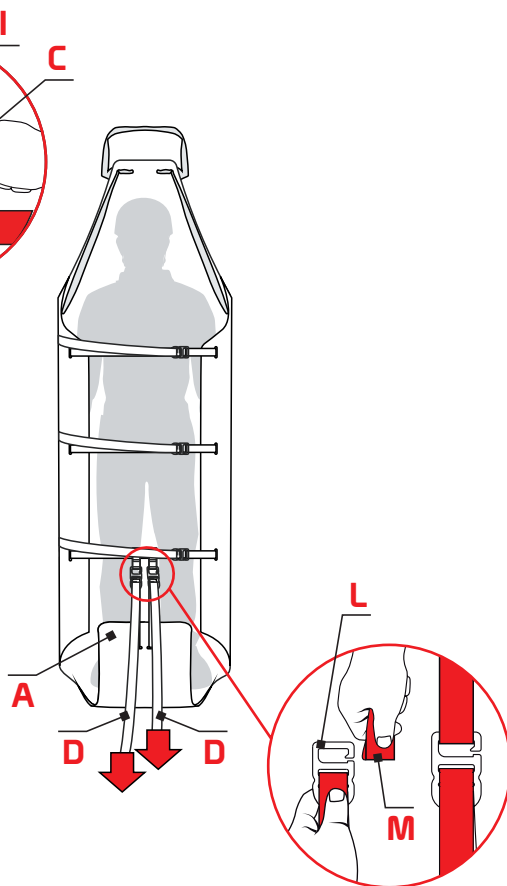

Fig.16
- Insert the buckles with hook (L) in the corresponding slings with eyelet (M) and tension the slings (D) to lift the end part of the support surface (A) enough to contain the patient's feet (fig. 16).